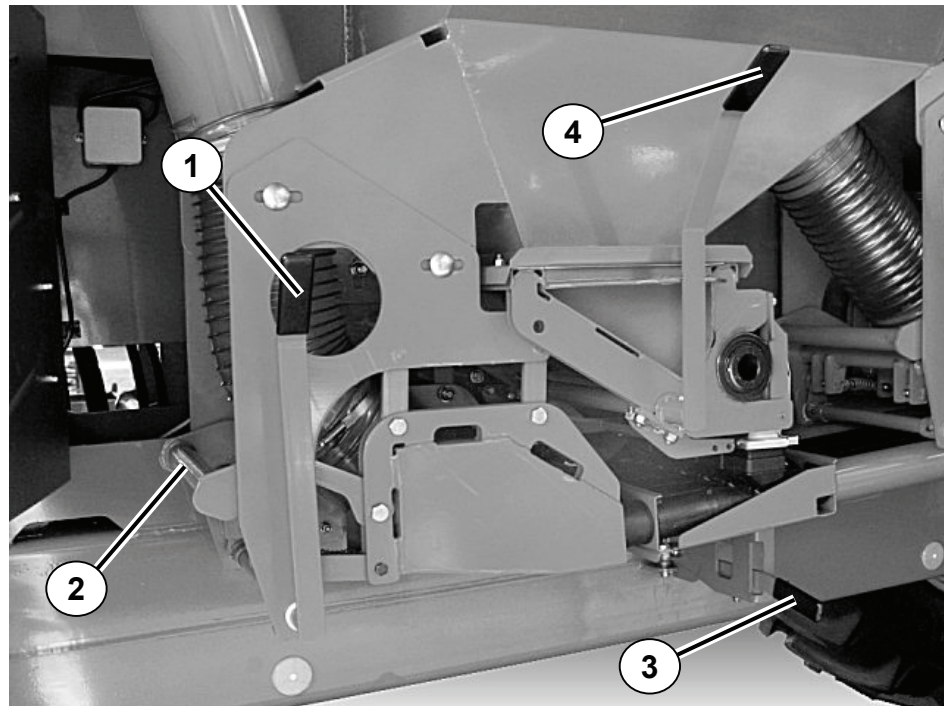

Fig. 34: Emptying the fertiliser spreader
Push all three levers (Fig. 34: Pos. 1) forwards on the tractor side until the securing device has fully engaged.
2. The lock (Fig. 34: Pos. 2) drops down and engages.
3. Lift the air duct with your **left** hand. Use your right hand to swing the lever for the rack (Fig. 34: Pos. 3) to the rear (right) until it engages.
6. Unfold the spreading trays downwards. To do so actuate the lever (Fig. 34: Pos. 4).